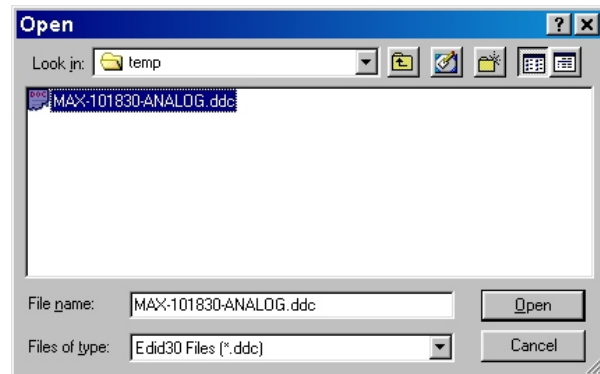

Fig. 26
2. Select the file you want to open as shown in Fig. 26.